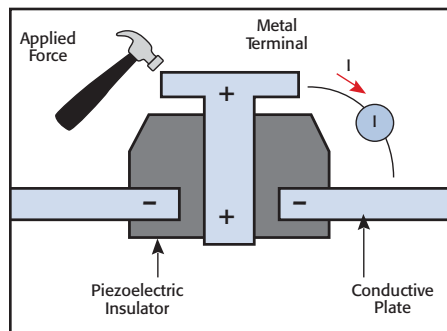

Figure 5
**Piezoelectric currents** are generated when mechanical stress is applied to certain crystalline materials when used for insulated terminals and interconnecting hardware. In some plastics, pockets of stored charge cause the material to behave in a manner similar to piezoelectric materials. An example of a terminal with a piezoelectric insulator is shown in Figure 5. To minimize the current due to this effect, remove mechanical stresses from the insulator and use insulating materials with minimal piezoelectric and stored charge effects.